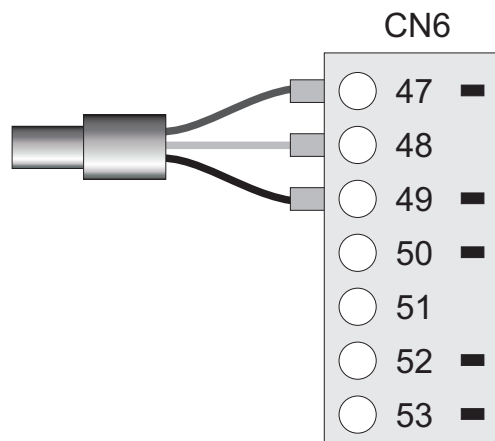

Figure 290: Serial Communications Cable Wiring
2. Connect the Serial Communications cable to Terminal Block CN6 as shown in Figure 290. Note that the Polarisers are removed at positions 48 and 51.